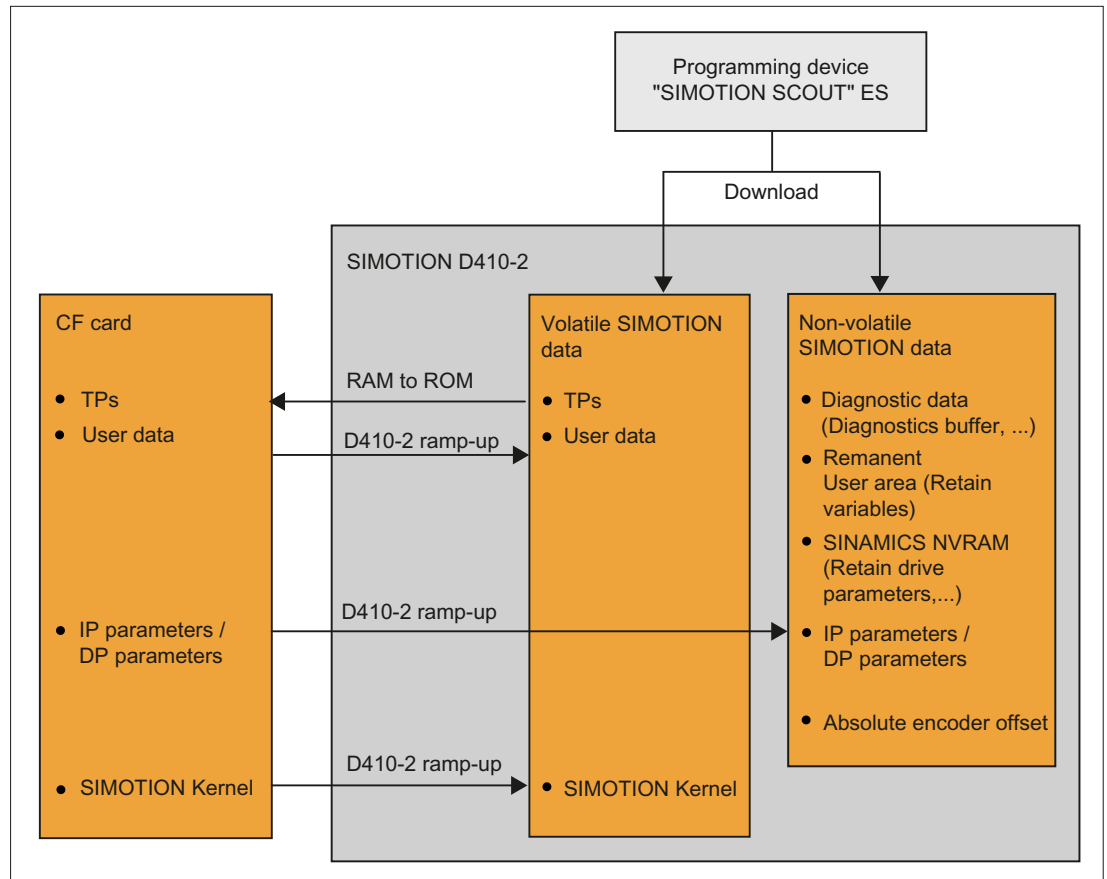

Figure 5-2 SIMOTION D410-2 memory model
- Figure 5-2 SIMOTION D410-2 memory model (Page 71)